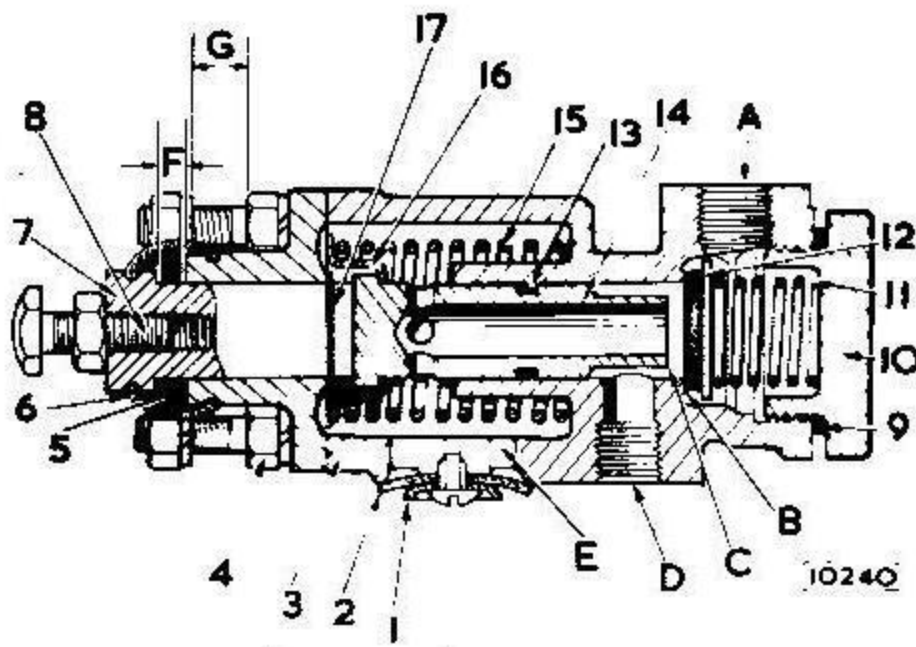

Fig. 29 The control valve
The unit comprises a valve body (Fig. 29) and an end cover (5) containing a spring loaded inlet-exhaust valve assembly (12) and two operating plungers (7 and 14).